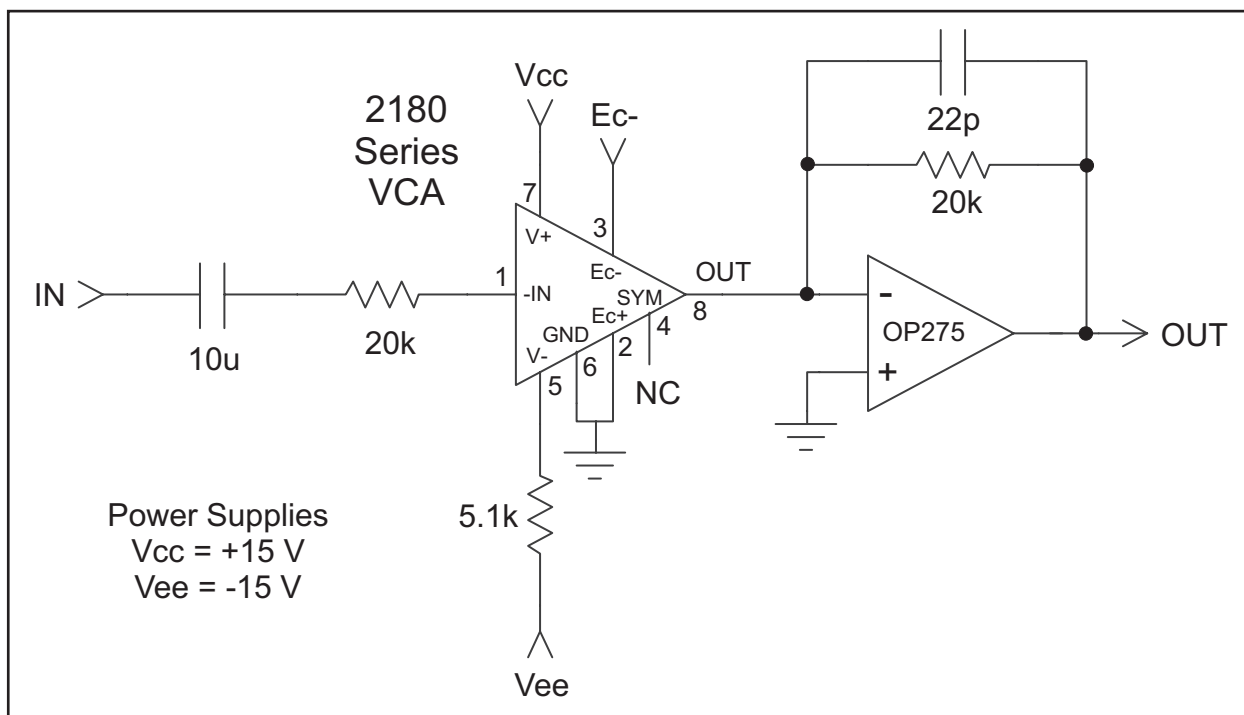
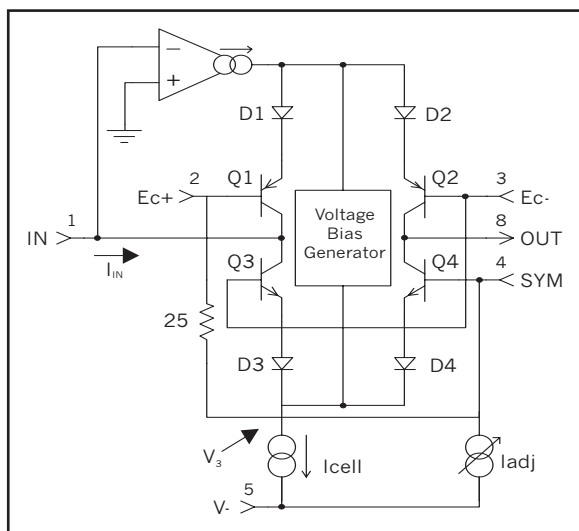
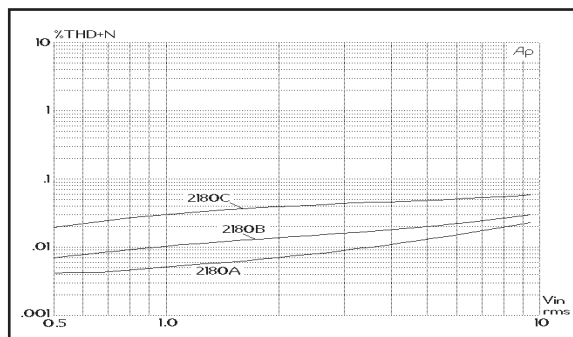
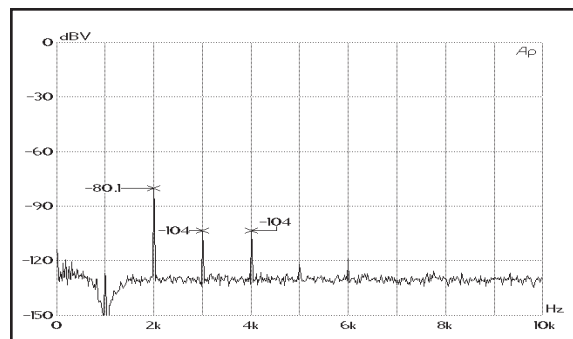

Figure 2. Typical Application Circuit
Figure 5. Simplified Internal Circuit Diagram
Figure 10. 1 kHz THD+Noise Vs. Input Level, 0 dB Gain
Figure 13. FFT of THD, 0dB gain, 1kHz, 0dBV, Typical 2180B
2. Unless otherwise noted, $T_A = 25^\circ\text{C}$, $V_{CC} = +15\text{V}$, $V_{EE} = -15\text{V}$. Test circuit is as shown in Figure 2.
Figure 5 presents a considerably simplified internal circuit diagram of the IC. The ac input signal current flows in pin1, the input pin. An internal operational transconductance amplifier (OTA) works to maintain pin 1 at a virtual ground potential by driving the emitters of Q1 and (through the Voltage Bias Generator) Q3. Q3/D3 and Q1/D1 act to log the input current, producing a voltage, V₃, which represents the bipolar logarithm of the input current. (The voltage at the junction of D1 and D2 is the same as V₃, but shifted by four forward V_{be} drops.)
The 2180 current consumption is determined by the resistor between pin 5 (V-) and the negative supply voltage (V_{EE}). Typically, with 15V supplies, the resistor is $5.1\text{ k}\Omega$, which provides approximately 2.4 mA. This current is split into two paths: $570\text{ }\mu\text{A}$ is used for biasing the IC, and the remainder becomes I_{cell} as shown in Figure 5. I_{cell} is further split in two parts: about $20\text{ }\mu\text{A}$ biases the core transistors (Q1 through Q4), the rest is available for input and output signal current
recommended. In particular, the 2180 maintains low distortion over a wide range of gain, cut and signal levels. Figures 10 through 12 show typical distortion performance for representative samples of each grade of the part. Figure 13 shows the harmonic content of the distortion in a typical B-grade part.
The Input pin (pin 1) is a virtual ground with negative feedback provided internally (see Figure 5, Page 4). The input resistor (shown as 20 k Ω in Figure 2, Page 3) should be scaled to convert the available ac input voltage to a current within the linear range of the device. Generally, peak input currents should be kept under 1 mA for best distortion performance.
Figures 10 through 12 show distortion vs. Signal level for the three parts in the 2180 Series for 0 dB, +15 dB and -15 dB gain. The circuit of Figure 2, Page 3 was used to generate these curves.
A designer may trade off noise for distortion by decreasing the 20 k Ω current-to-voltage converting resistors used at the input and output in Figure 2, Page 3. For every dB these resistor values are decreased, the voltage noise at the output of the OP275 is reduced by one dB. For example, with 10 k Ω resistors, the output noise floor drops to -104 dBV (typical) at 0 dB gain — a 6 dB reduction in noise because 10 k Ω is 1/2 of (6 dB lower than) 20 k Ω .
The Output pin (pin 8) is intended to be connected to a virtual ground node, so that current flowing in it may be converted to a voltage (see Figures 2 & 14). Choose the external opamp for good audio performance. The feedback resistor should be chosen based on the desired current-to-voltage conversion constant. Since the input resistor determines the voltage-to-current conversion at the input, the familiar ratio of R_f/R_i for an inverting opamp will determine the overall voltage gain when the 2180 is set for 0 dB current gain. Since the VCA performs best at settings near unity gain, use the input and feedback resistors to provide design-center gain or loss, if necessary.